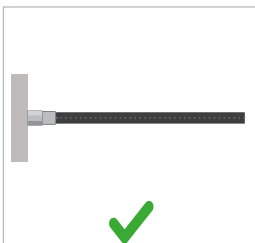
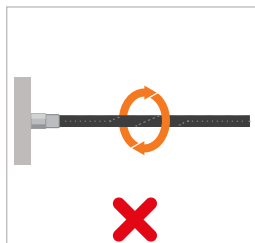

Figure 9
Figure 10
- ▶ Do not twist the hose when screwing it in (*Figure 9 and Figure 10*).